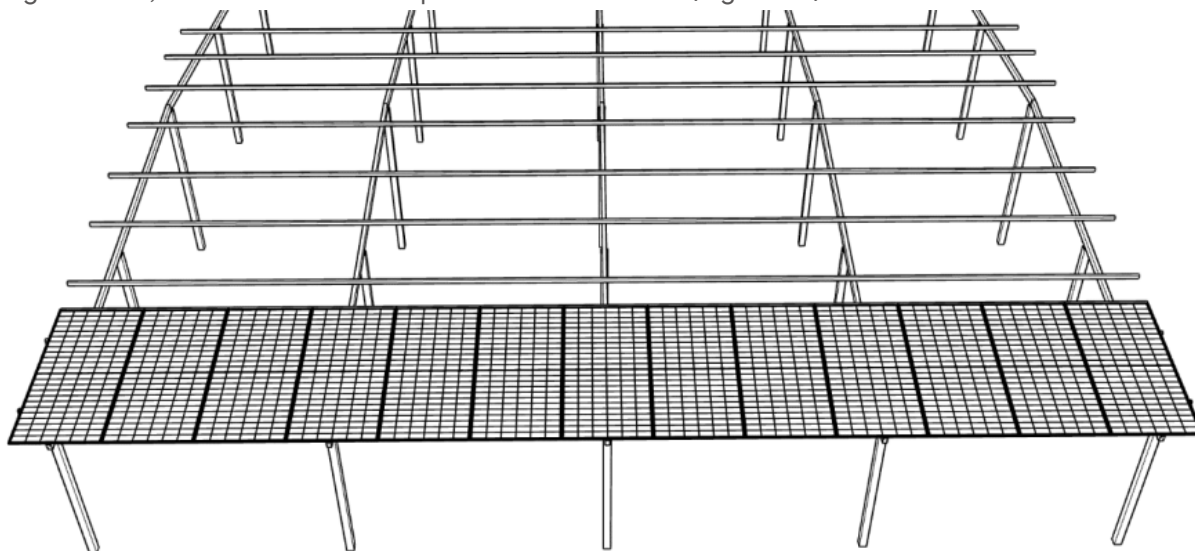

FIGURE 21
- Following the installation method of the second product, install the remaining products from right to left, until the first row of products is installed. (Figure 21)